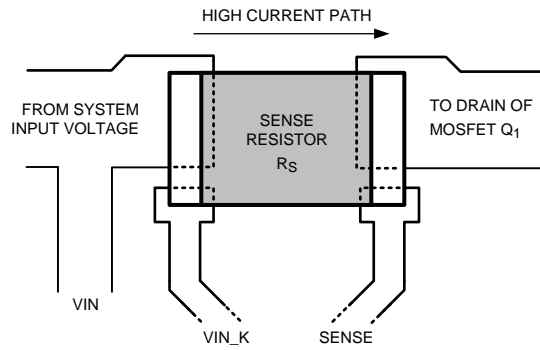

图 52. Sense Resistor Connections
5. The sense resistor ( $R_{SNS}$ ) should be placed close to the LM5066I. A trace should connect the VIN pad and  $Q_1$  pad of the sense resistor to VIN\_K and SENSE pins, respectively. Connect  $R_{SNS}$  using the Kelvin techniques as shown in 图 52.